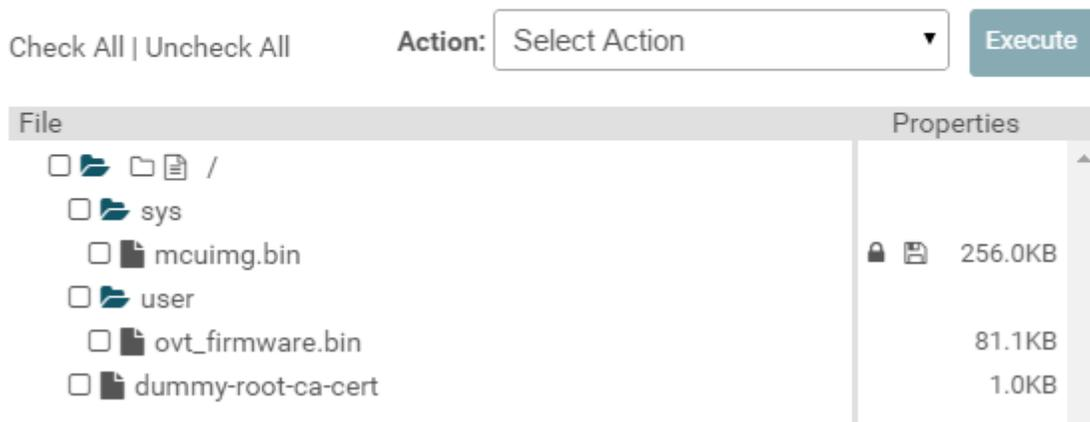

Figure 3-1. Uniflash File System
4. In the new user folder, add the file *dsif_slave_9732.bin* located in the folder <CC3220 SDK>\source\third_party\ov788\. Name this file *ovt_firmware.bin*, as shown in Figure 3-1.